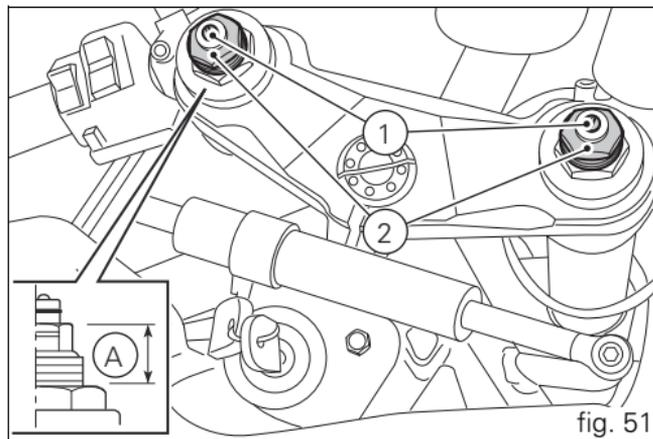

fig. 51
- 1) for rebound adjustment (fig. 51);
- 2) for spring preload adjustment (fig. 51);
Spring preload: (A, fig. 51): 18 mm.
To change the preload of the spring inside each fork leg, turn the hex. adjuster (2, fig. 51) with a 22-mm hexagon wrench.